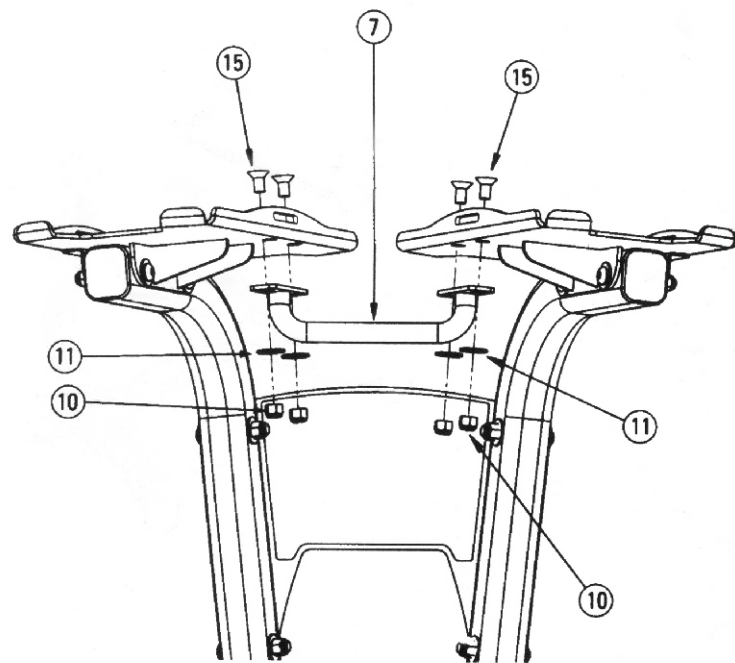

Figure 7
**7-1** Attach the Towel Bar (#7) to the Left Dumbbell Platform (#5) and the Right Dumbbell Platform (#6) using hardware shown in **Figure 7**. Hand tighten screws in a cross pattern, to ensure even fit.